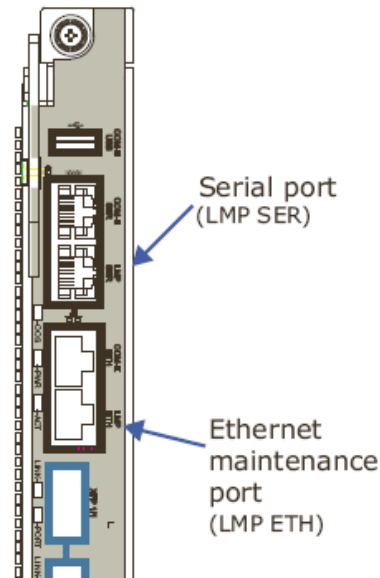

Figure 6.7. SFB Serial and Ethernet Ports
1. Connect the included serial port cable by plugging one end into the RJ-45 serial port labeled **LMP SER** on the SFB (see illustration Figure 6.7, "SFB Serial and Ethernet Ports" below).